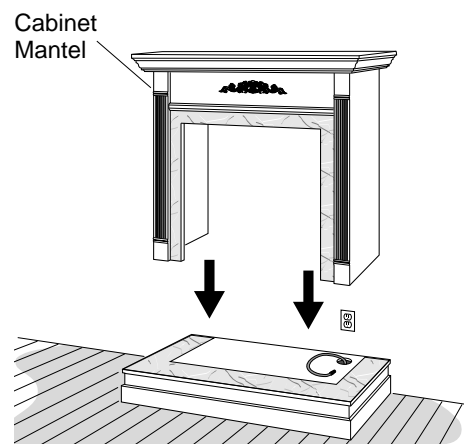

Figure 18 - Installing Cabinet Mantel
2. If using an optional GA3700 blower (FB32CA and NLFB32C models only), install a properly grounded, 120 volt three-prong electrical outlet at firebox location if an outlet is not there. If possible, locate outlet so cabinet mantel will cover it when installed (see Figure 18).
- Center cabinet mantel on hearth base (see Figure 18, page 10). Make sure mantel is flush against wall.